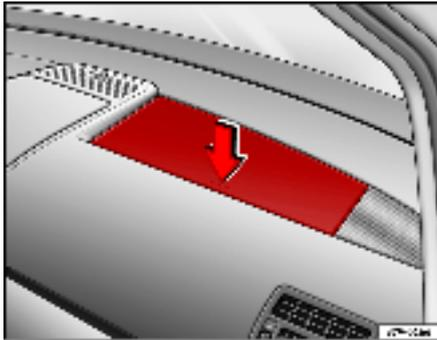

Fig. 100 Upper right stowage on instrument panel
**To open**, press as shown by arrow ⇒ fig. 100. The stowage compartment opens by spring action.